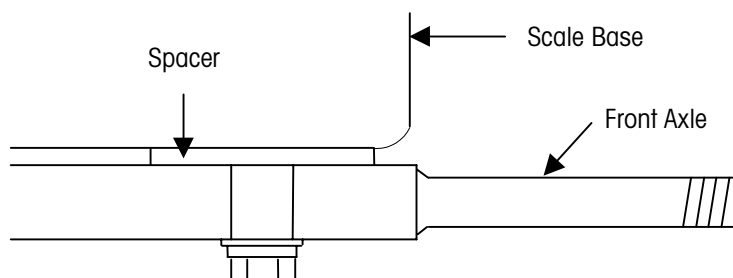

Figure 2-4: Front View of Front Axle Installation (shown right side up)
6. Align the bolt holes in the front axle with the holes where the front adjustable feet were attached to the bottom of the scale base. Place an axle spacer between the axle and each of the bolt holes (see Figure 2-4). Secure the front axle and spacer to the scale base with a flat washer, lock washer, and screw at each bolt hole.